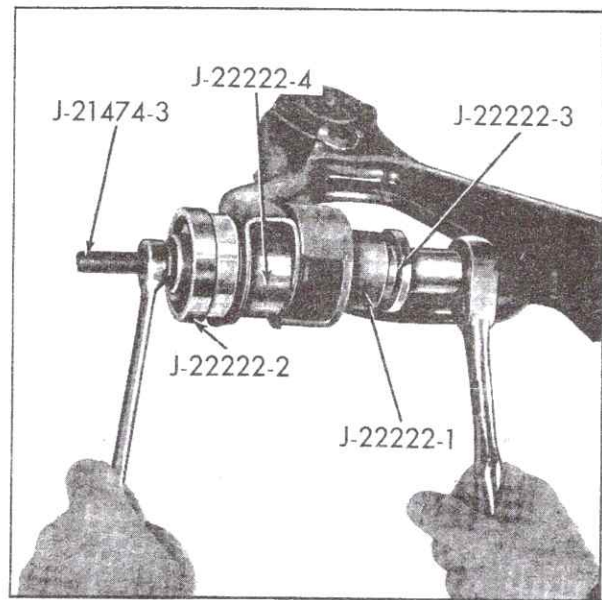

Fig. 3-36 Installing Upper Control Arm Bushings
2. Install tools as shown in Fig. 3-36, and press bushings into control arm.